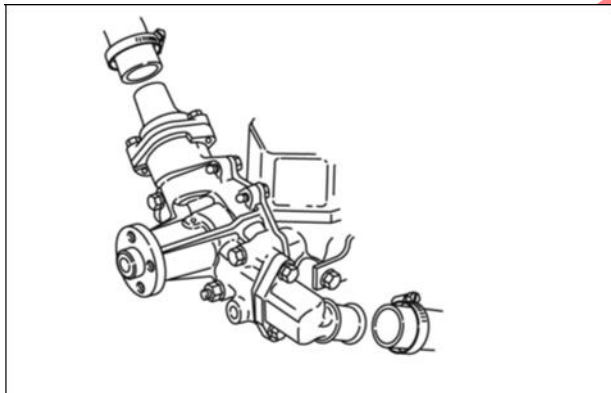

Figure 8
2. Disconnect radiator hoses (Figure 8).